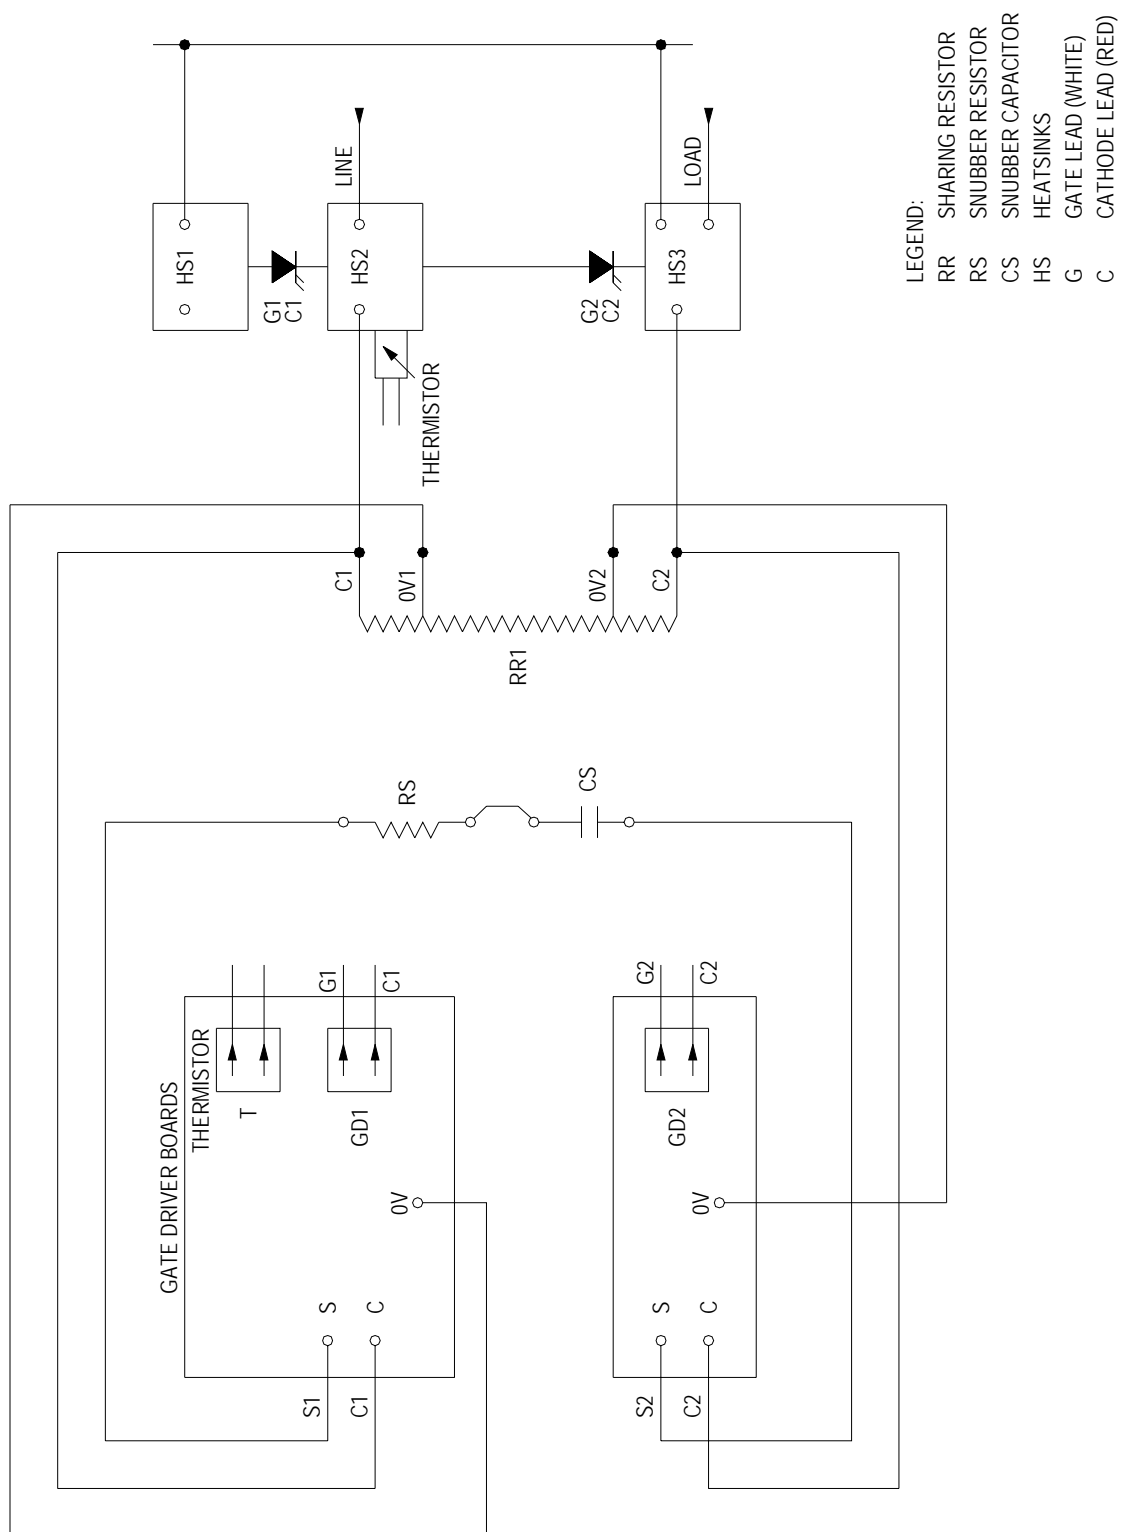

Figure 9.21 – 1500/2400 V Module Wiring (180/360 A)
2. Check the snubber components and sharing resistors by isolating them and measuring values as follows (See Figures 9.21 to 9.26):